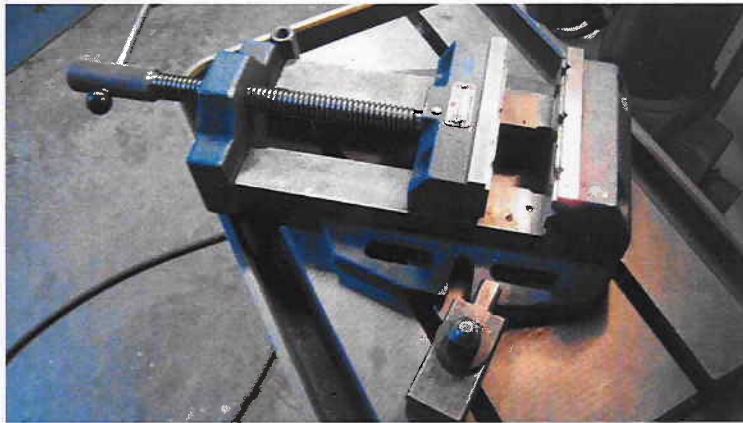
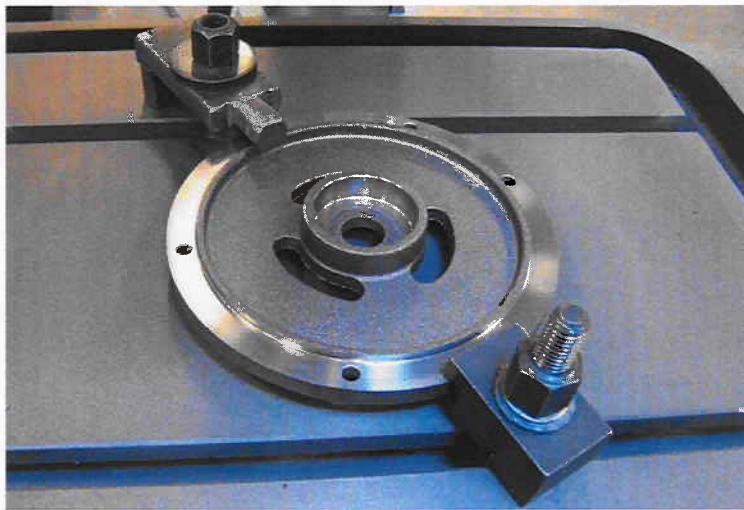

Figure 3 Fastening the table vice on the table, example
Figure 4 Fastening the work piece on the table, example
- Make sure that the work piece is securely fastened at the table, see an example in figure 3 and figure 4.